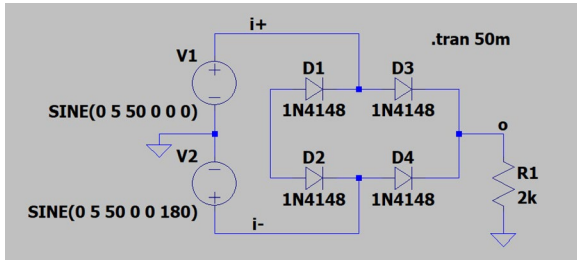

Fig.1a
1) Design and simulate the three circuits in Figures 1a, 1b and 1c (60pts):
- For Fig.1a plot the inputs and output and make your observations
2) Build and measure the three circuits at (1) (140 pts) (ABET PI-62,PI-63,PI-64)
- For Fig.1a plot the positive input and the output, compare with the simulation and make your observations